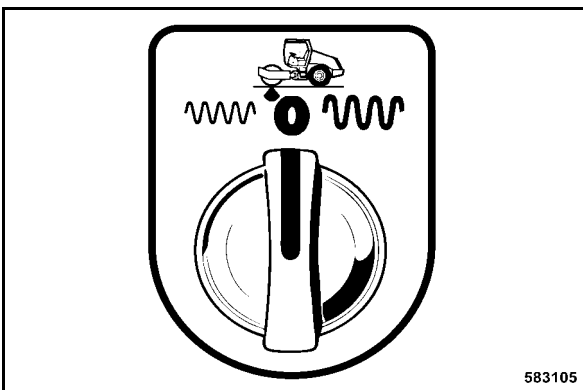

Fig. 68
- After the end of work switch the rotary switch for vibration amplitude pre-selection (Fig. 68) to position "0".